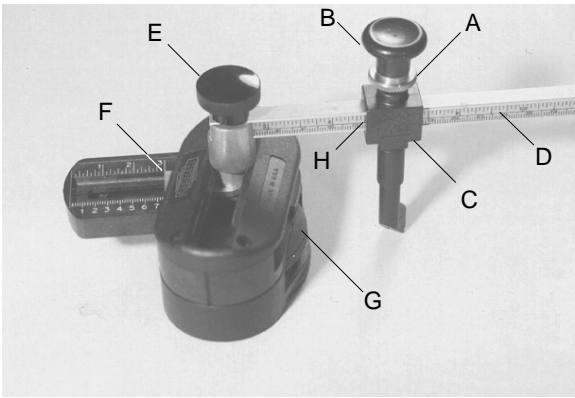

Figure 1
Set the off-set by loosening the knob (E) on top of the base. Slide the off-set plate (F) so its left end aligns with the desired off-set on the off-set scale which is graduated in both Metric and Imperial. Tighten the knob. Note If you are scoring a circle, the off-set is zero. Figure 1 shows the cutter ready for a 5 by 8 inch oval, (125mm by 200mm).